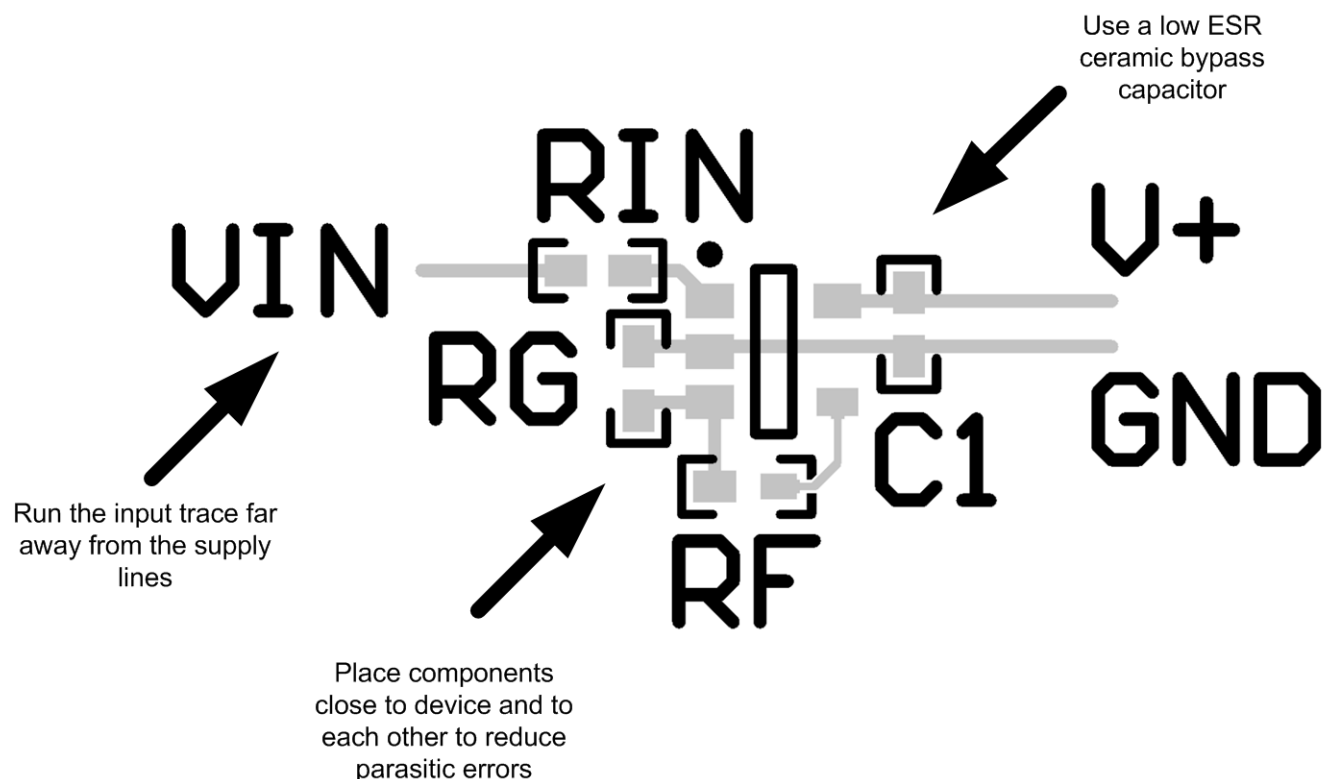

Figure 47. Operational Amplifier Board Layout for Noninverting Configuration
- Place the external components as close to the device as possible. Keeping RF and RG close to the inverting input minimizes parasitic capacitance, as shown in Figure 47.